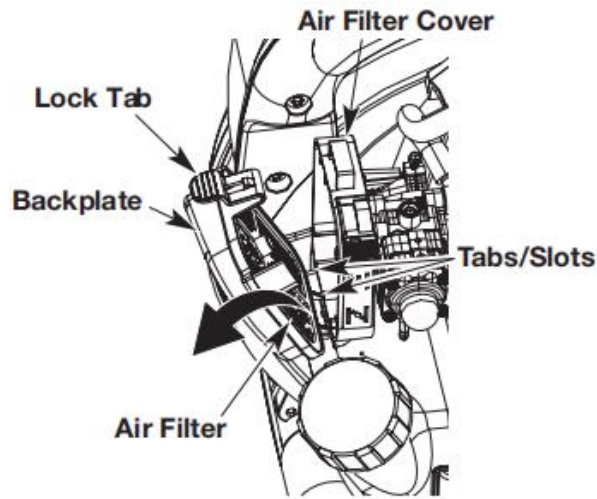

Fig. 12
- 2) Open the air filter cover: press in the lock tab and swing the air filter cover to the right (Fig. 12).
- 3) Remove the air filter (Fig. 12).
- 7) Reinstall the air filter (Fig. 12).